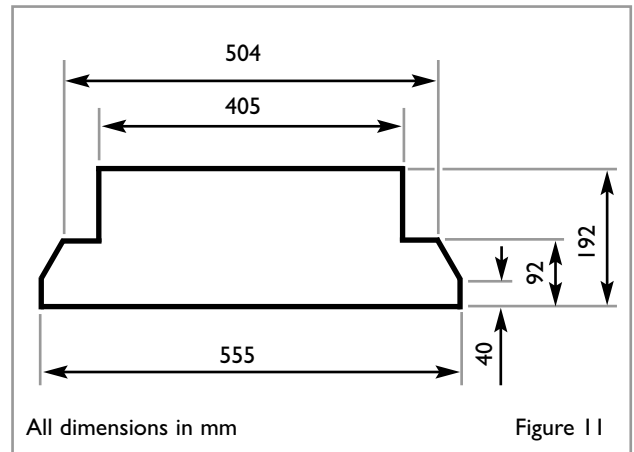

Figure 11
**Positano models :** If the appliance is to be wall mounted then the entire base of the appliance must be supported by a non-combustible shelf. It may be desirable for the shape of the shelf to follow the profile of the appliance. In this case the footprint of the appliance is shown in figure 11, and any flush fitting shelf design may be calculated from the measurements given.